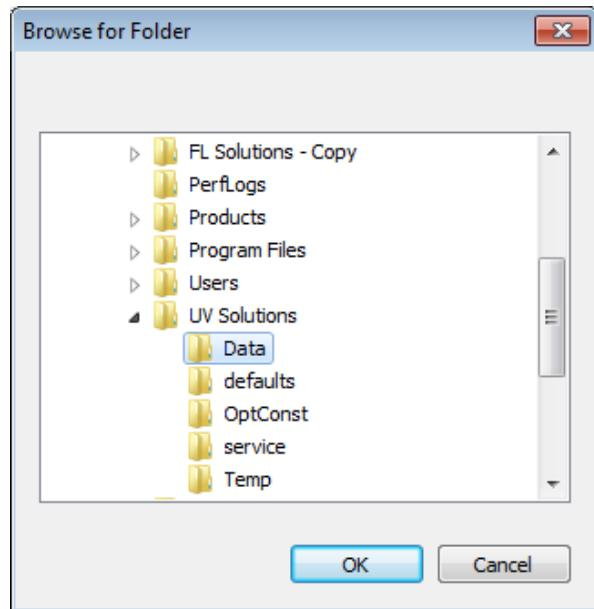

Fig. 4-35
- 1) Display the "Browse for Folder" dialog box as shown in Fig. 4-35 by clicking the **Browse** button. Specify a path for folder creation.